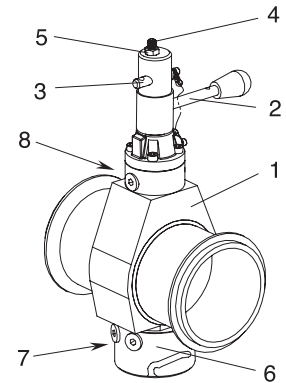

FIG. 2
4.1.1 Aseptic sampling valve (see fig. 2)